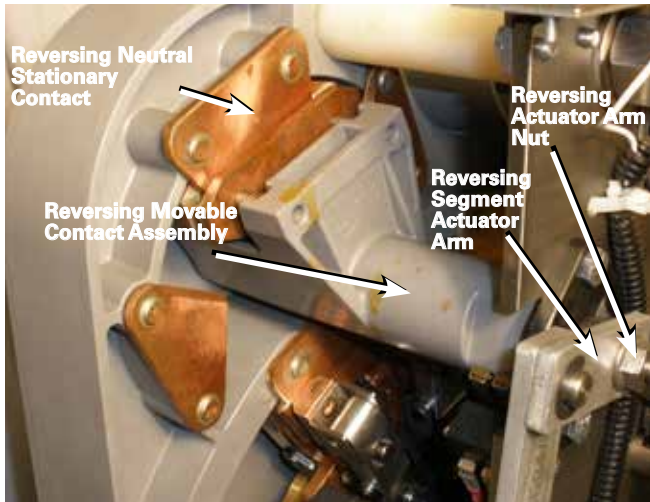

Figure 2. Actuator arm and hardware.
1. Hold the reversing movable contact assembly to prevent the assembly from moving. Using a 9/16" wrench loosen and remove the reversing actuator arm nut. See Figure 2.